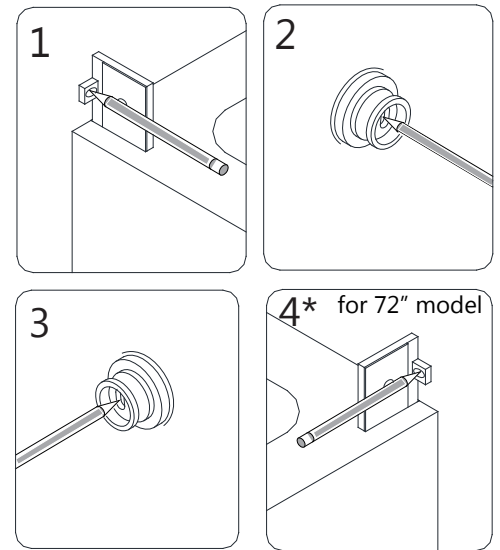

Fig 11
***NOTE:** **If installing the 72" model,** perform the same procedure on the opposite wall to mark the **Wall Bracket (#19)** for the **Small Stationary Panel Glass (#23)** (see Fig 11.4*). **(Fig 11)**